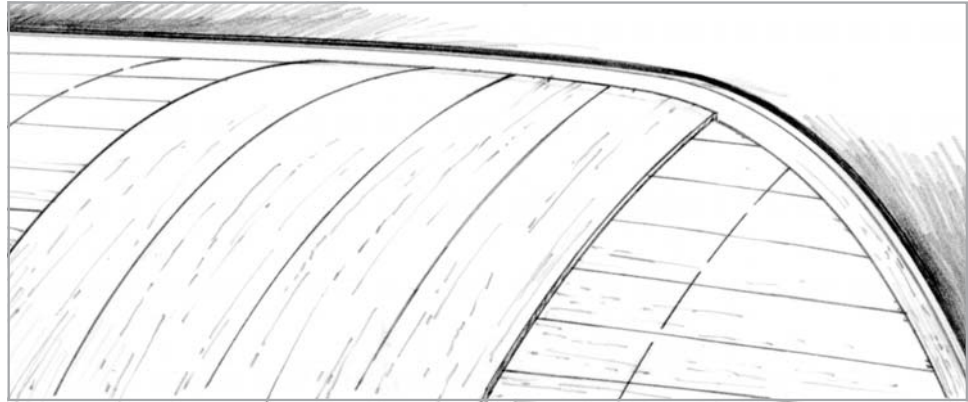

Figure 5-21 Bond the first layer at an angle that allows it to lie flat against the surface.
2. Bond the first veneer about midpoint on the hull. Use the one-step bonding technique (Section 8.4.2) with an epoxy/403 filler mixture. Staple the veneer so it lies flat against the surface at about a 35° diagonal (*Figure 5-21*). Adjust the angle as necessary to allow the veneer to lie flat along its full length.